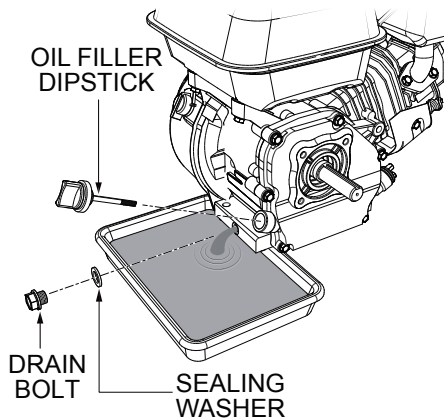

Figure 38. Draining Engine Oil
1. Remove the drain bolt and sealing washer, and allow the oil to drain into a suitable container (Figure 38).